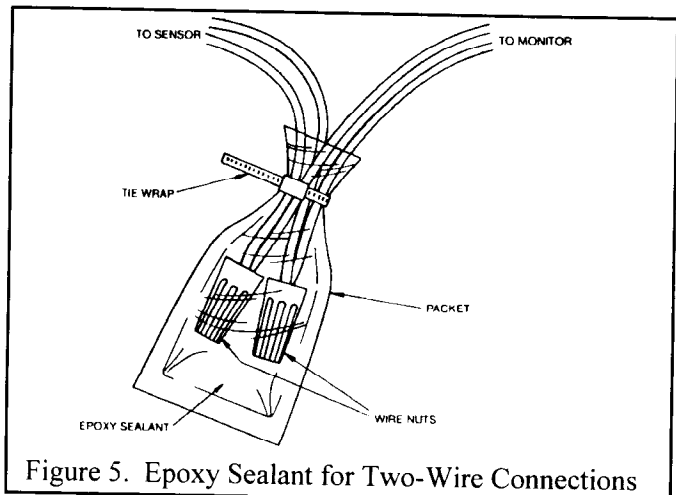

Figure 5. Epoxy Sealant for Two-Wire Connections
- Seal wire nuts with epoxy sealant using one bag for two wire nut connections (Figure 5).